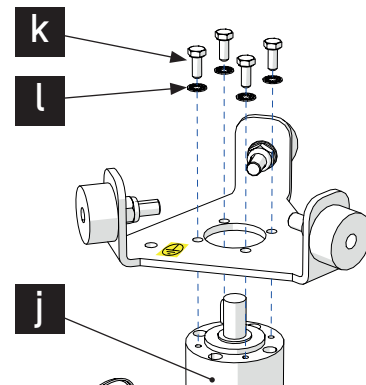

Fig. 31 - Motor replacement (Motor removal)
9. Unscrew the four screws (**k**) and remove the washers (**l**) to remove the motor (**j**) (Fig. 31);